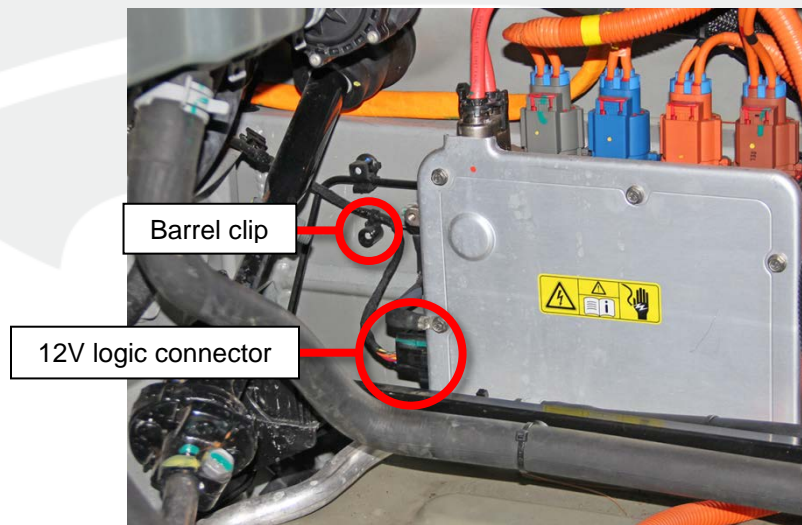

Figure 1
3. Disconnect the 12V logic connector (X040) from the forward junction box (FJB) (Figure 1).
TIP: It might be helpful to release the barrel clip that secures the harness to the stud on the bulkhead (Figure 1).